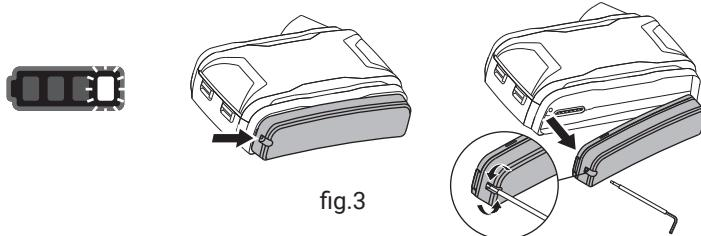

fig.3
- When the battery is low, the battery indicator will flash, and an audible alarm will sound. At this point, please immediately go to a safe workplace. Use the special inner hexagonal spanner provided to remove the battery from the blower (See fig.3).